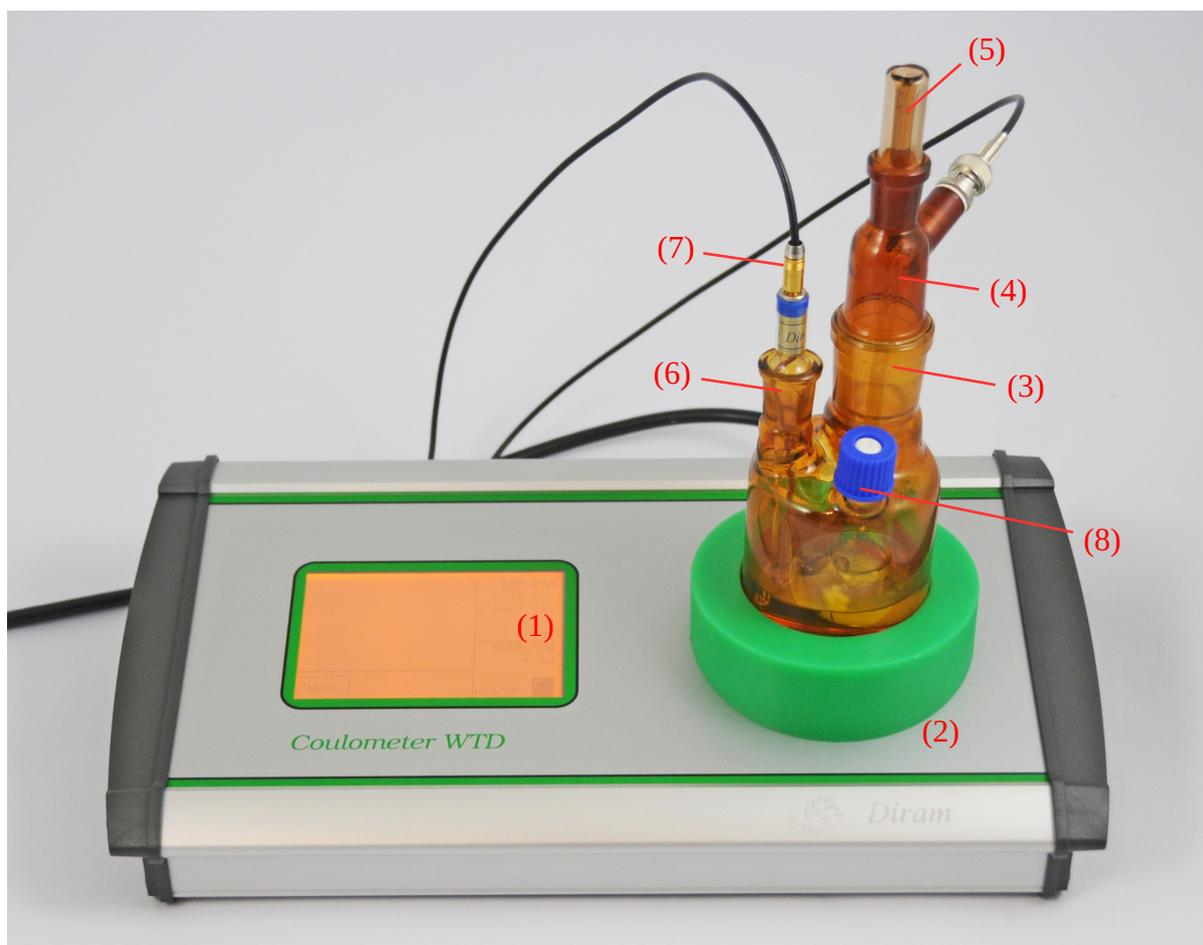

Figure 1: Coulometer WTD
The automatic titrator Coulometer WTD is shown in Fig. 1. It is composed of an aluminum housing, touchscreen (1) and a nest (2) with built-in magnetic stirrer accommodating the titration vessel. The titration vessel consists of a glass bottle with three necks. The large neck (3) with ground joint no 29 serves for a working electrode (4) fitting. On the top it has a glass cap equipped with a capillary (5). A small neck (6) with ground joint no 14 serves for indication electrode (7) fitting and a small screw cap with septum (8) serves for sample insertion. The electrodes are connected by cables to the rear panel of the device.